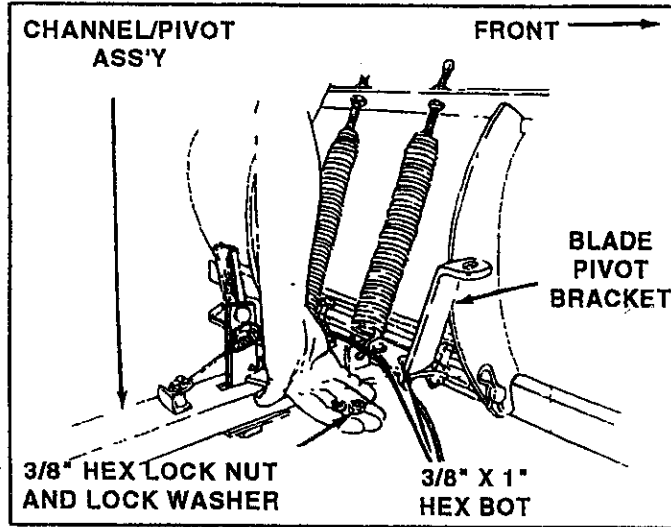

FIGURE 14
9. Assemble blade pivot bracket on to top right hand side of channel/pivot assembly. See figure 14. Assemble two  $3/8"$  x  $1"$  hex bolts down through bracket and plate and secure with two  $3/8"$  lock washers and  $3/8"$  hex nuts underneath.